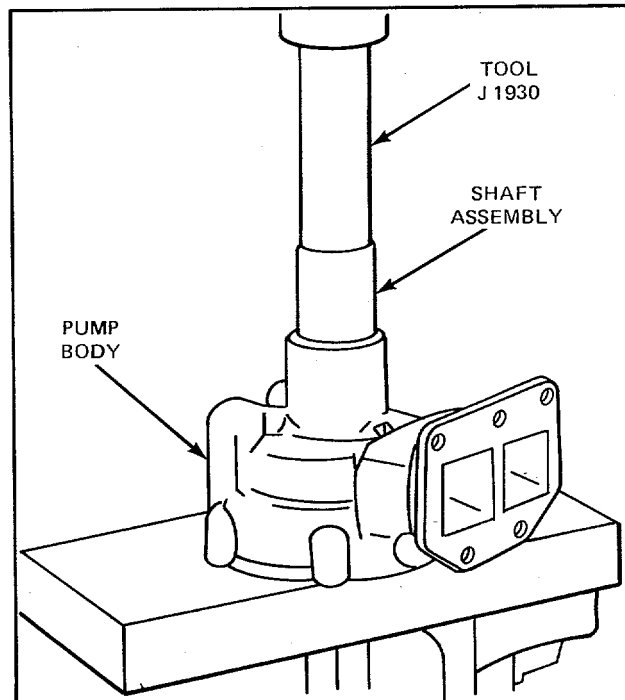

Figure 5. Pressing Shaft Assembly into Water Pump
1. Use installer J 1930 to apply pressure to the outer race of the bearing as shown in Fig. 5 and press the shaft and bearing assembly into the pump body until the outer race of the bearing is flush with the outer face of the body.